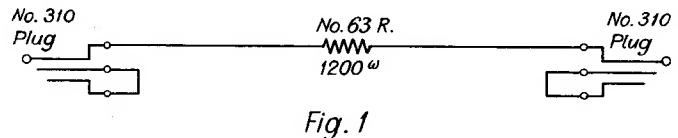

Fig. 1
2.09 For No. 1 step-by-step offices, one special patching cord (to be made up locally) with two 310 plugs, with ring and sleeve elements of each plug short-circuited, and a 63R resistor connected as shown in Fig. 1.
Using special patching cord shown in Fig. 1, connect connector test line 3 and 4 jacks together in nonlevel hunting group at connector frame or at coin trunk relay jack by inserting one plug into 4 jack and the other plug into 3 jack. | |